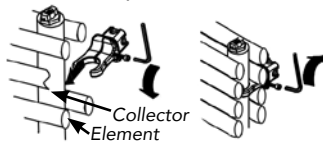

**Fig 3**
5. Raise radiator and slot into Wall sleeves" A" and tighten (*Fig. 3*).